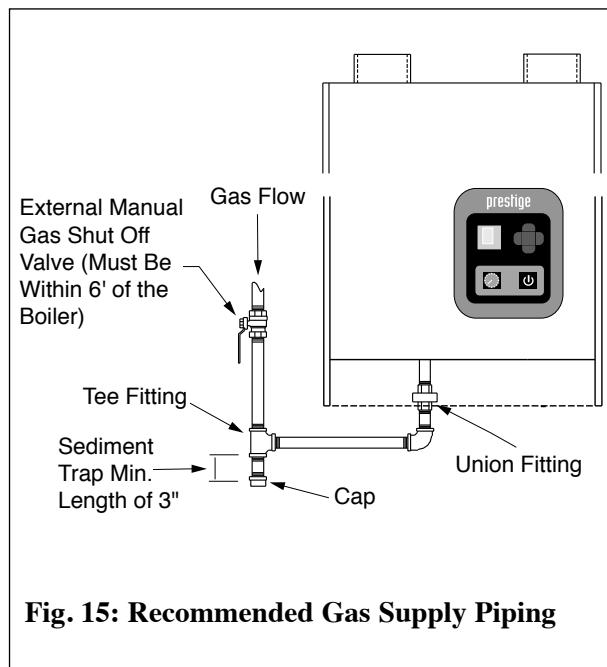

Fig. 15: Recommended Gas Supply Piping
2. Install a manual shutoff valve in the gas supply piping as shown in Fig. 15. For installations in Canada the installer must tag and identify the main shutoff valve.
3. Install a sediment trap (drip leg) on the gas supply line prior to connecting to the PRESTIGE Solo gas train as shown in Fig. 15.